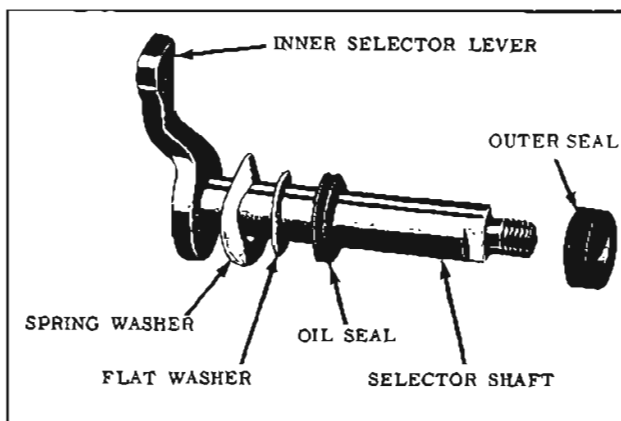

Fig. 7-29 Inner Selector Lever and Shaft
3. Install the spring washer, flat washer, and the oil seal on the inner selector shaft in that order, with the crowned side of the spring washer against the flat washer. (Fig. 7-29)